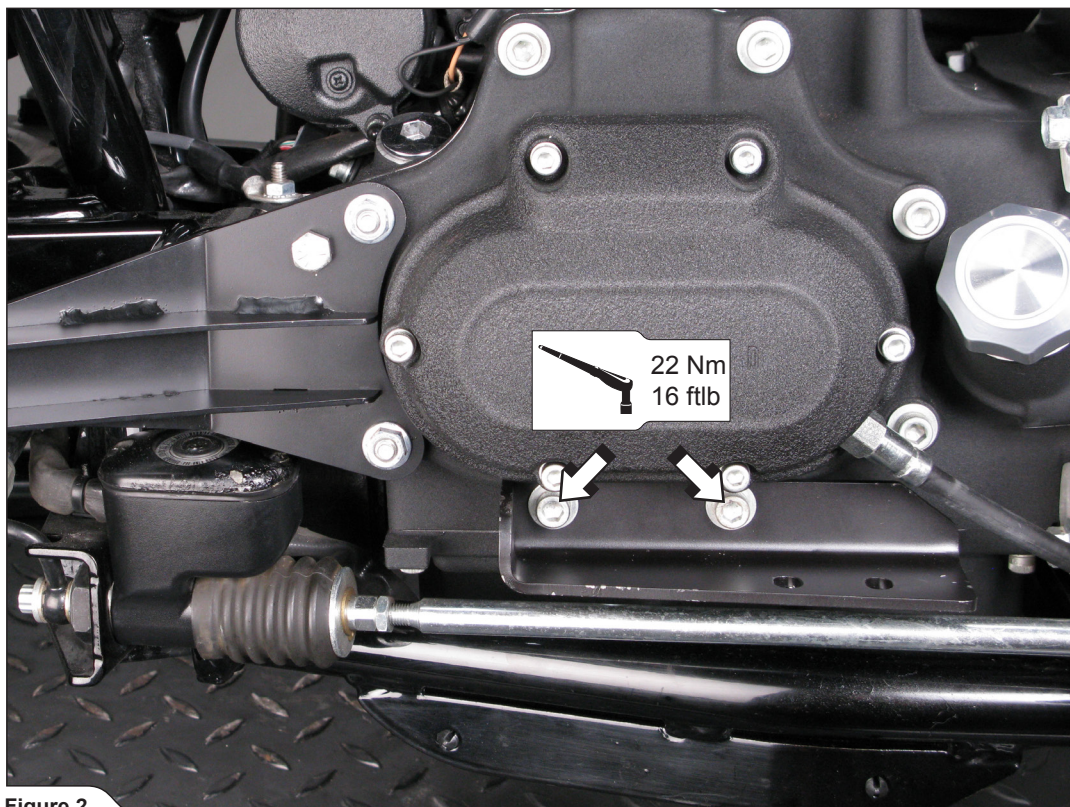

Figure 2
2. Screw the front muffler's Akrapovič bracket onto the transmission housing, using original bolts (**Figure 2**).